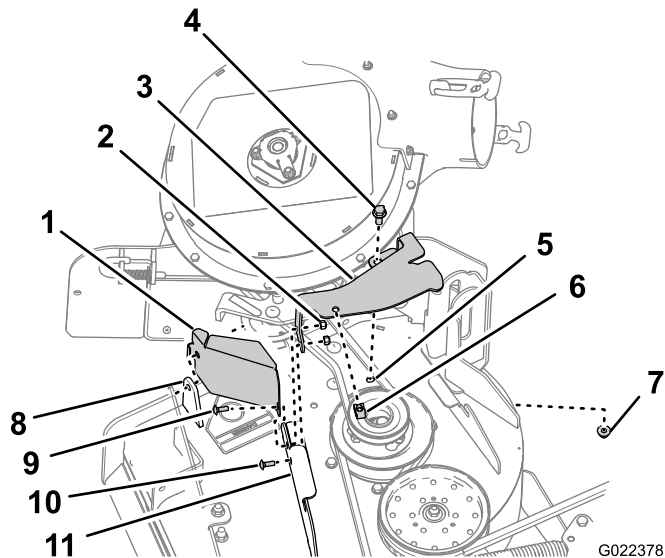

Figure 7
1. Align the holes of the pulley guard to the hole in the forward deflector bracket and the outboard hole in the forward deck flange (Figure 7).
3. Secure the pulley guard and the belt cover bracket to the forward deck flange at the outboard hole with the carriage bolt (1/4 x 1 inch, CE kit) and the locknut (1/4 inch, blower kit) that you removed in step 1 of Removing the Belt Cover Bracket \(page 3\); refer to Figure 7.
4. Secure the belt cover bracket to the forward deck flange at the inboard hole with the a carriage bolt (1/4 x 3/4 inch, blower kit) and the locknut (1/4 inch, blower kit) that you removed in step 1 of Removing the Belt Cover Bracket \(page 3\); refer to Figure 7.
5. Align the hole in the rear flange of the belt-cover bracket with the hole in the deck where you removed the belt cover bracket in step 1 of Removing the Cover Mounting Bracket \(page 3\); refer to Figure 7.
6. Secure the rear flange of the belt-cover bracket to the deck with a hex-head bolt (3/8 x 1 inch) and the flange nut (3/8 inch) that you removed in step 1 of Removing the Cover Mounting Bracket \(page 3\); refer to Figure 7.
7. Align the clip nut with the hole in the top of the belt-cover bracket, and push the clip nut onto the bracket (Figure 7).
2. Align the belt-cover bracket to the holes at the rear side of the forward deck flange (Figure 7).